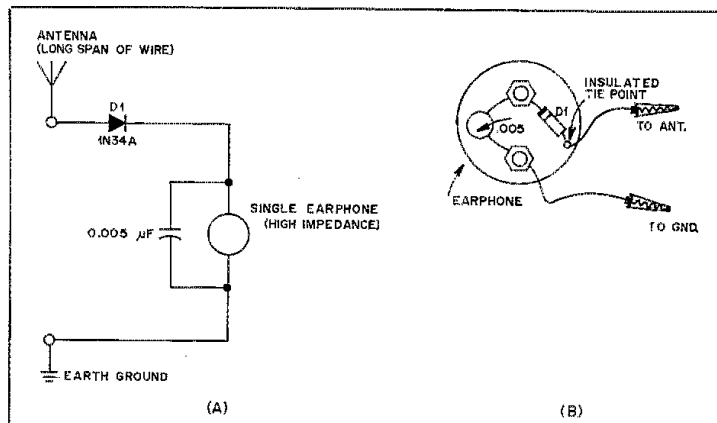

Fig. 1 — A diagram is provided at A for a very basic type of receiver. It is shown pictorially at B.
As a new enthusiast in the art of radio experimenting you may have tried the circuit of Fig. 1. It is the most basic form of the "crystal set" or crystal detector. This type of radio is suitable for the reception of amplitude-modulated (a-m) signals, such as one finds in the commercial broadcast band between 550 and 1600 kHz. In the early days of Amateur Radio, a-m was the common voice mode, so a receiver of this kind could be used to monitor the quality of one's signal. If it were used today, and if a long piece of wire (50 feet — 15 m — or more) were used for an antenna, bc-band signals would be heard. However, only a jumble of stations would be present unless you lived very near one of the commercial stations. That being the case, the nearby one would predominate by virtue of sheer brute force.
The circuit of Fig. 1 routes rf energy from the antenna to D1, a small-signal rf type of diode. The diode acts as a half-wave rectifier to produce a dc voltage which pulsates in accordance with the
A better circuit is seen at Fig. 2. The fundamental difference over that which is presented in Fig. 1 is the added selectivity
to the desired one. The farther away the greater the rejection. This can be envisioned by examining the curve in Fig. 2 at B. The station we wish to hear (B) has been tuned in by adjusting C1 so that it forms a resonant circuit with L2. This gives maximum signal response to station B and places stations A and C quite far down on the response curve of the tuned circuit, thereby rejecting them by many decibels (dBs). There can be no such rejection of the unwanted stations when using the circuit of Fig. 1. The steeper the sides of the curve (resulting from higher values of Q, or by using additional tuned circuits ahead of D1) the greater the rejection of the unwanted stations, A and C. Tuned circuits of this general variety, when used in the early stages of a receiver, provide what is known as *front-end selectivity*.
An elaboration of front-end selectivity is demonstrated in Fig. 3. Here we continue to employ a simple diode detector (D1), but to make the receiver more sensitive we have added an rf amplifier between the antenna and the detector. As shown, Q1 will boost the incoming signal some 10 to 15 dB. This will make all signals louder in the earphones — a distinct advantage when listening to the weaker bc-band stations. But of equal or greater significance is the extra tuned circuit (C2 and L3). This coil and capacitor form a tuned circuit which is resonant at exactly the same frequency as C1 and L1, assuming they have each been tuned to the desired listening frequency. The resultant response curve will be much narrower (bottom edges pulled closer in toward the center) than that of Fig. 2B. This will provide even greater rejection of signals which fall above or below the one we have tuned in. We encourage the readers of this article to experiment with the circuits of Figs. 1, 2 and 3. The performance traits we have just discussed will become readily apparent when using these circuits for reception of the standard bc band.
We've already admitted that the circuits just discussed are suitable for a-m reception only. So, how can we change them to permit cw and ssb reception? Well, first let's understand why the simple receivers of Fig. 1, 2 and 3 aren't satisfactory for cw and ssb use. They depend upon the carrier being transmitted along with the desired audio intelligence (modulation). In the case of an ssb signal the carrier is suppressed by some 50 dB within the transmitter. Therefore, the carrier must be reintroduced in the receiver. This pro-